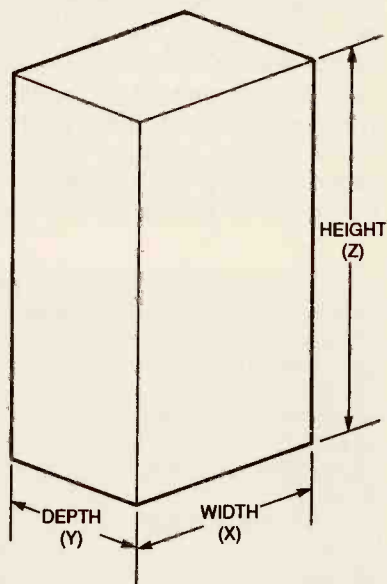

Fig. 2. The second program uses the three variables shown here to indicate the cabinet dimensions.
**What Volume?** Now, the next logical step is to use the calculated volume and another small program to get the actual internal cabinet dimensions (height, width, and depth,) as indicated in Fig. 2. But before we introduce the next program, let's discuss a few points first.